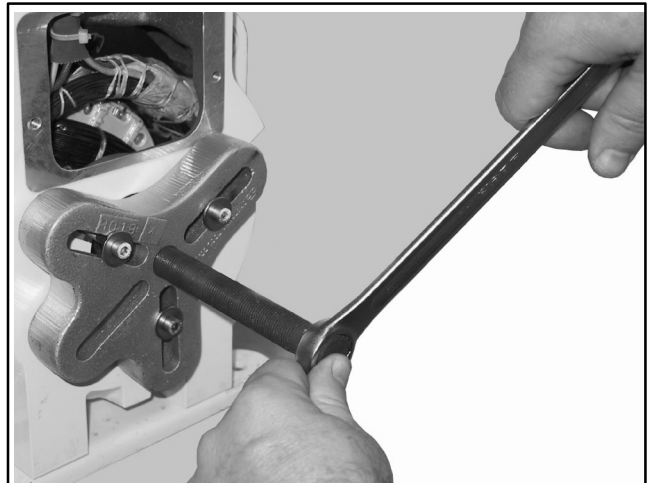

Figure 10-12 Jawpuller Installation
5. Install a jawpuller with three M5 threaded screws into the seawater pump housing holes. See Figure 10-12.